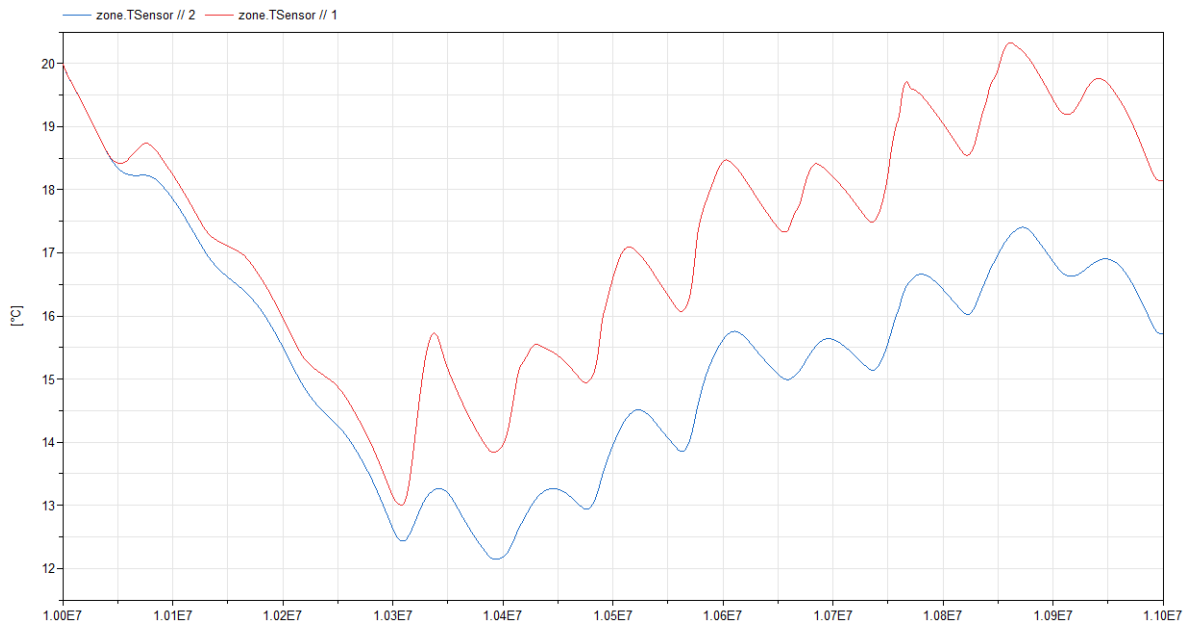

Figure 2: Zone temperature with (blue) and without (red) screen model.
**Reference result** The result with and without the shading model is plotted in Figure 2.